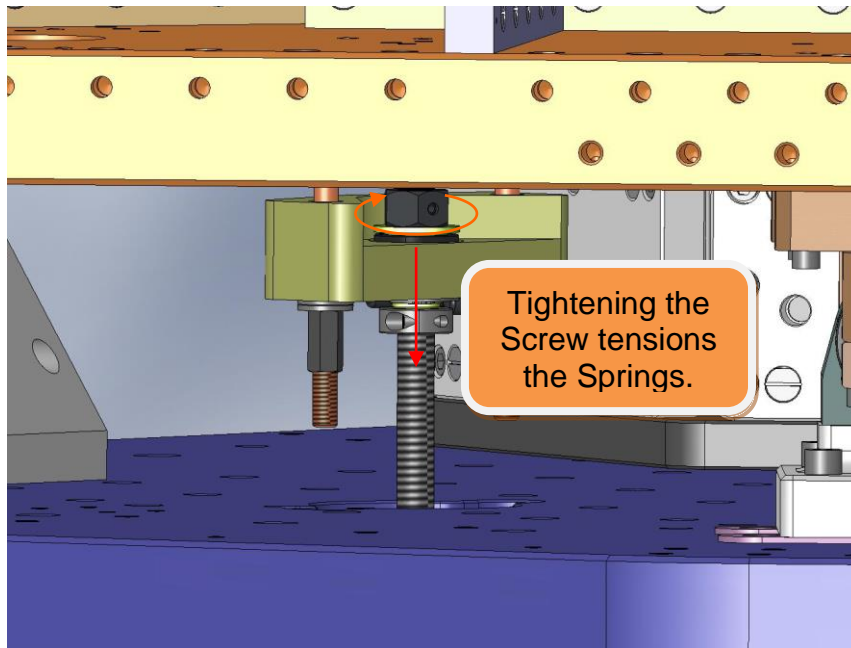

Figure 4.101. Load the Springs by tightening the ACME Screws. The Springs may be tightened in any order.
- Using a ratcheting box wrench, begin tightening all (3) **ACME Screws**, as shown in Figure 4.101. As the load on each **Spring** increases, its shape will approach the final, flat profile.